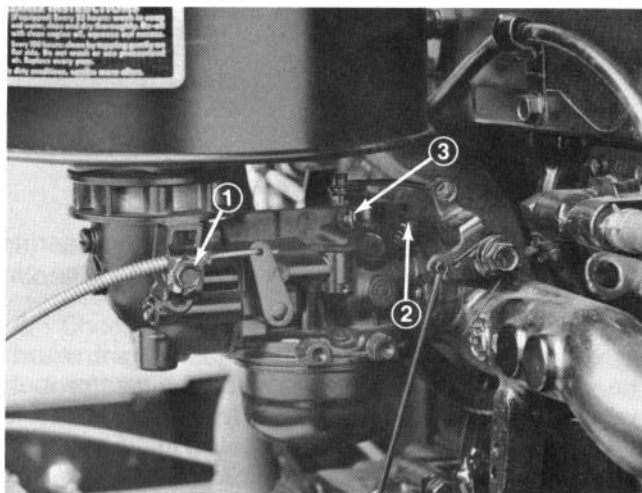

Figure 23
1. Loosen cable clamp screw securing cable to engine (Fig. 23).
3. Pull firmly on choke cable and tighten cable clamp screw (Fig. 23).
1. **Idle Fuel Adjusting Needle** (Fig. 23) — Close needle by gently rotating it clockwise.
2. Rotate — open — the needle 1 turn counterclockwise (Fig. 23).